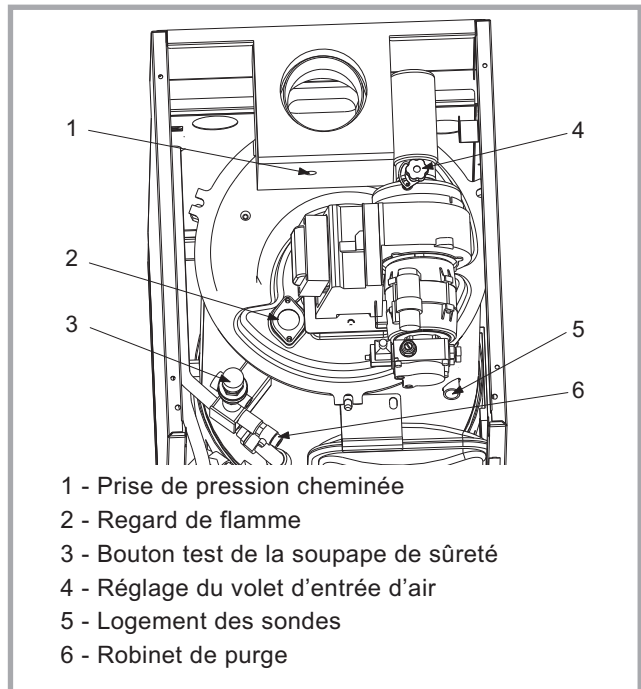

Figure 13
- Purger le corps de chauffe (rep. 6, fig. 13, p. 10).